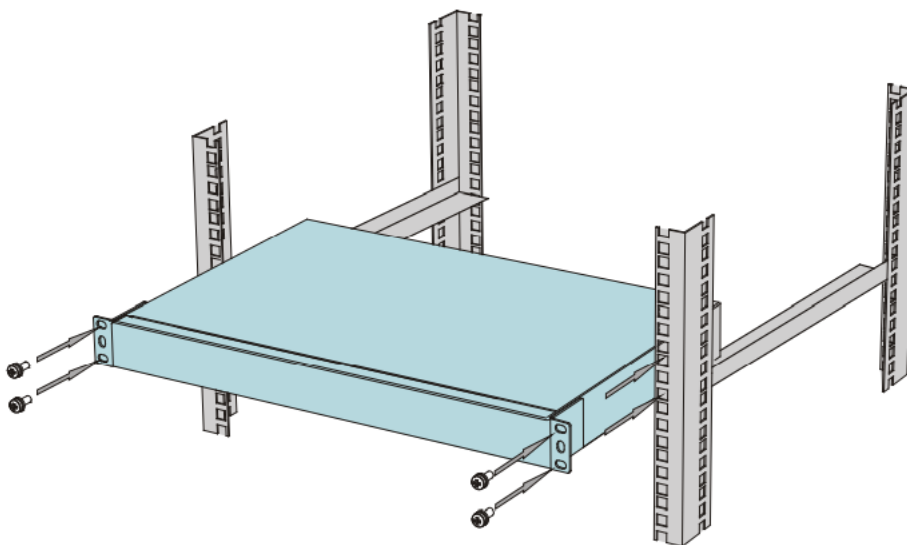

Figure 6: Installing the device on a switch cabinet
- ☐ Attach the rack ears to the switch cabinet. See Figure 6.